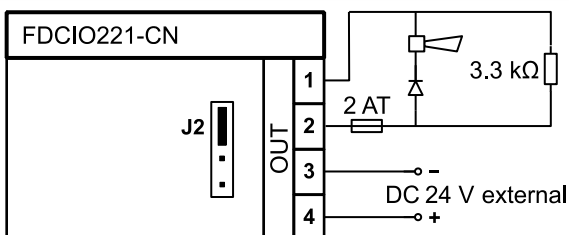

Fig. 10
- Output in "Normal operation mode": Fig. 10
- DC 24 V power supply: Fig. 10/Fig. 11
4. Connect the jumper to J1/J2 according to how the output is used (Fig. 10, Fig. 11 and Fig. 12).